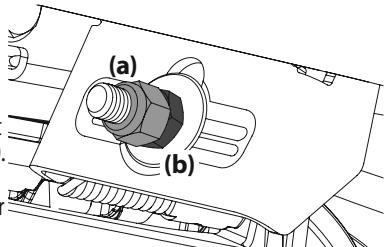

Figure 40
- To raise the front of the deck, remove the end cap, loosen the outer jam nut (a) then tighten (thread inward) the inner nut (b) against the front hanger bracket. See Figure 40. When proper adjustment is achieved, re-tighten the outer jam nut (a) and replace the end cap.
- To lower the front of the deck, remove the end cap, loosen the outer jam nut (a) then loosen (thread outward) the inner nut (b), away from the front hanger bracket. See Figure 40. When proper adjustment is achieved, re-tighten the outer jam nut (a) to 57 ft-lbs. (77.28 N-m) and replace the end cap.